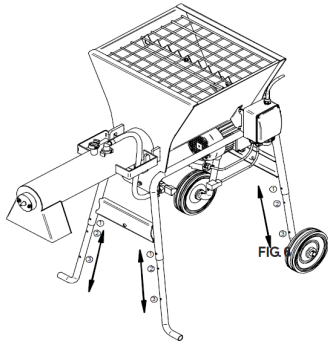

FIG. 6
10. LOADING HEIGHTS (SEE FIG 6):